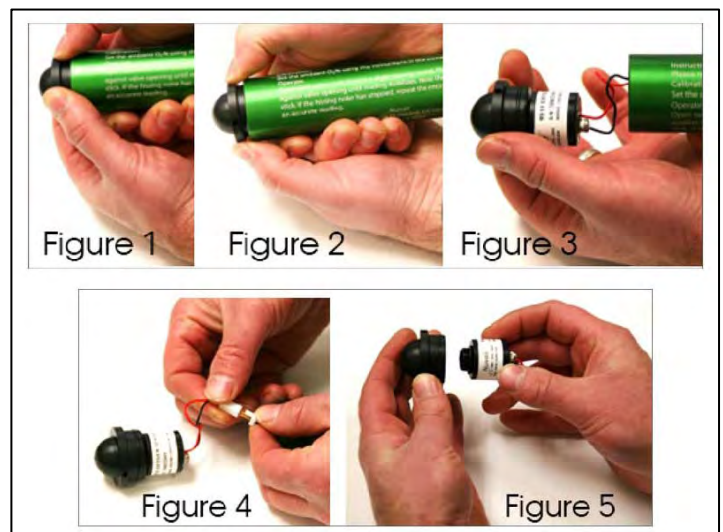

Figure 2. Removal and replacement steps.
(2) If the obstruction cannot be cleared, remove the sensor end cap from the oxygen sensor and visually inspect the sampling orifice (see Figure 2). If the orifice is blocked, use a straightened paperclip to clear the blockage from the orifice. Once the orifice is confirmed to be clear, replace sensor end cap.